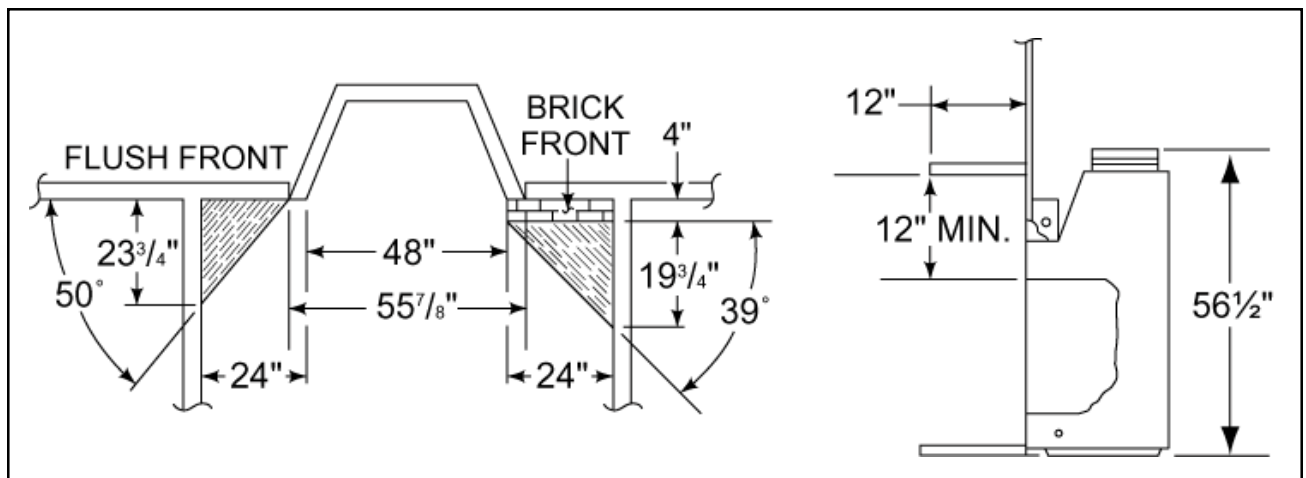

Figure 6 - Sidewalls and Surrounds
Adjacent combustible side walls must be located a minimum of 24" from the fireplace opening. See Figure 6. If you are using a decorative surround constructed of combustible material, it must be located within the shaded area defined in Figure 6. Short stub walls are also acceptable if they are contained within the shaded area.
- 6) The effective height of the fireplace assembly is measured from the base of fireplace to the top of the starter collar. See Figure 6.